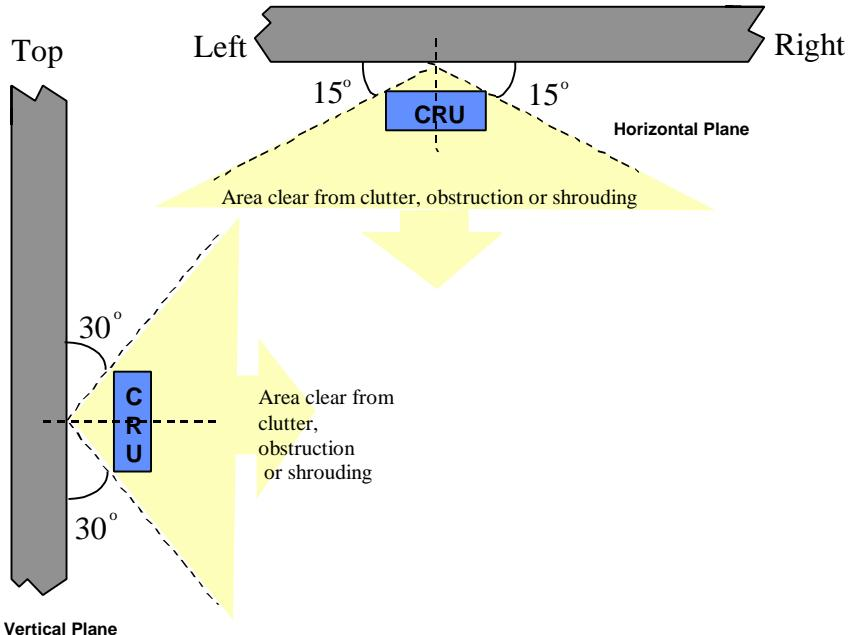

Figure 4. CRU Positioning
- Avoid obstructions such as adjacent walls or overhanging roof eaves, within 15° in the horizontal plane and 30° in the vertical plane (see Figure 4).